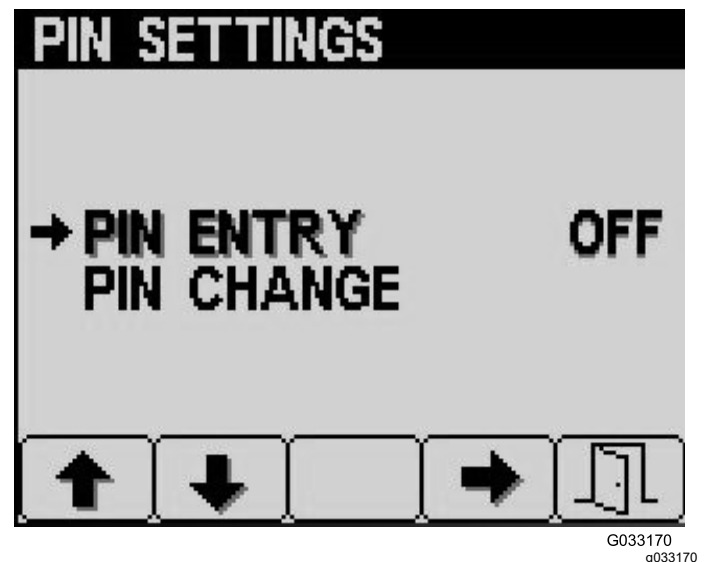

Figure 14
5. Press button 2 until you reach PIN Change on the PIN Settings screen and press button 4 to select PIN Change (Figure 14).